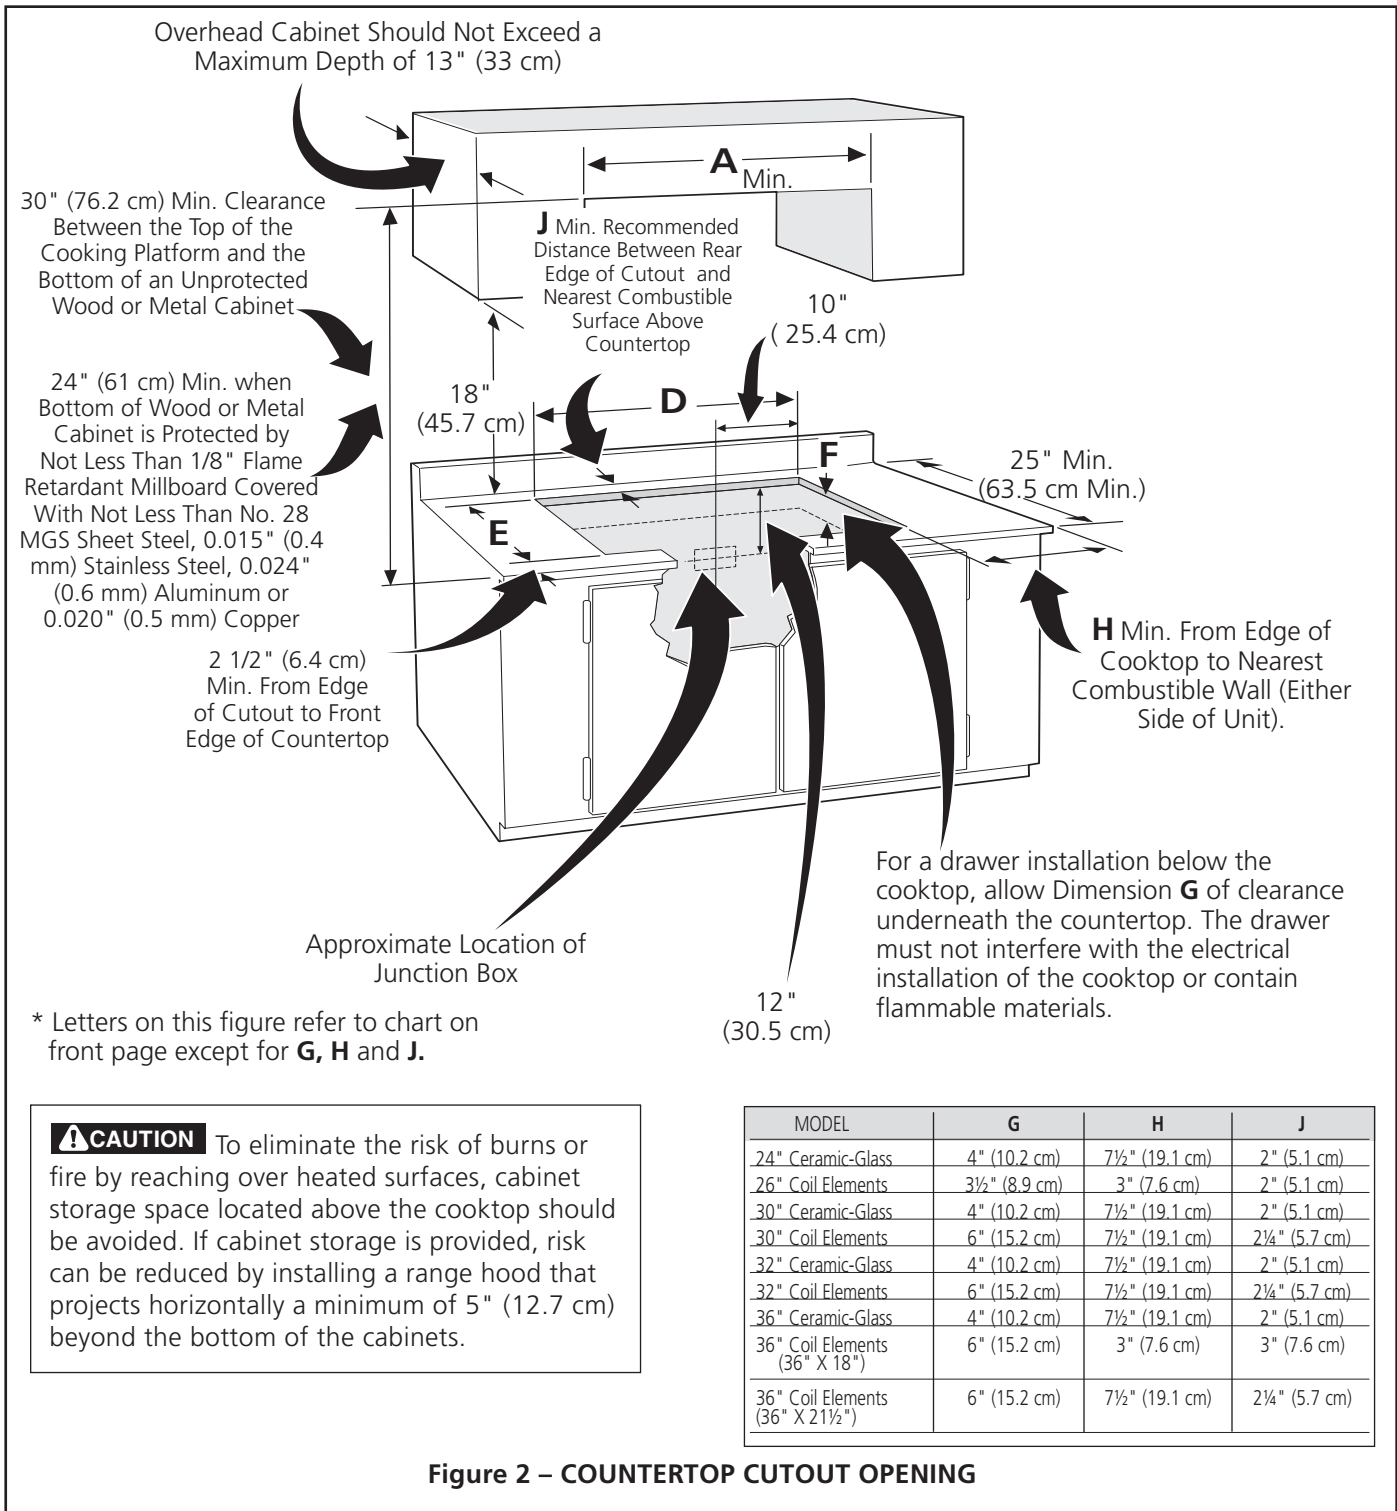

Figure 2 – COUNTERTOP CUTOUT OPENING
2. The flexible armored cable extending from the appliance should be connected directly to the junction box. The junction box should be located as shown in Figure 1 or Figure 2 and with as much slack as possible remaining in the cable between the box and the appliance, so it can be moved if servicing is ever necessary.